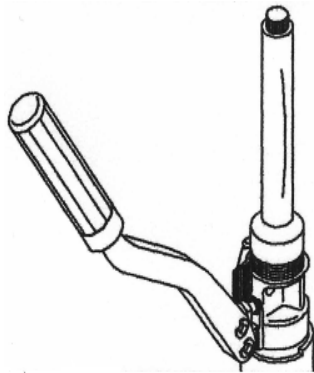

Figure 43. HD51 Oil Reservoir Filler Plug
- c. Unscrew reservoir cover and remove filler plug, fill with oil (Figure 43).